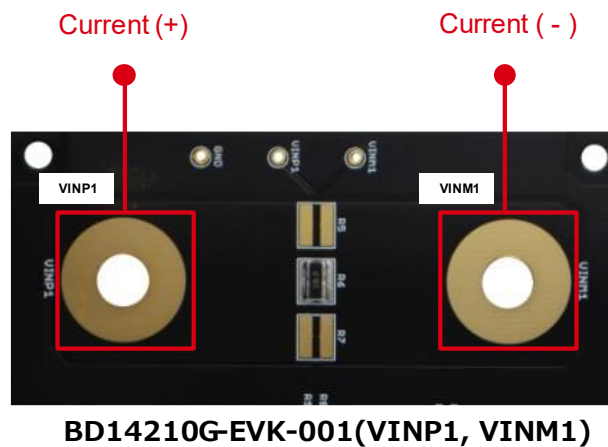

Figure 5. Connection of BD14210G-EVK-001 and the current wires
2. Connect the current wires to be measured to BD14210G-EVK-001. (Figure 5)